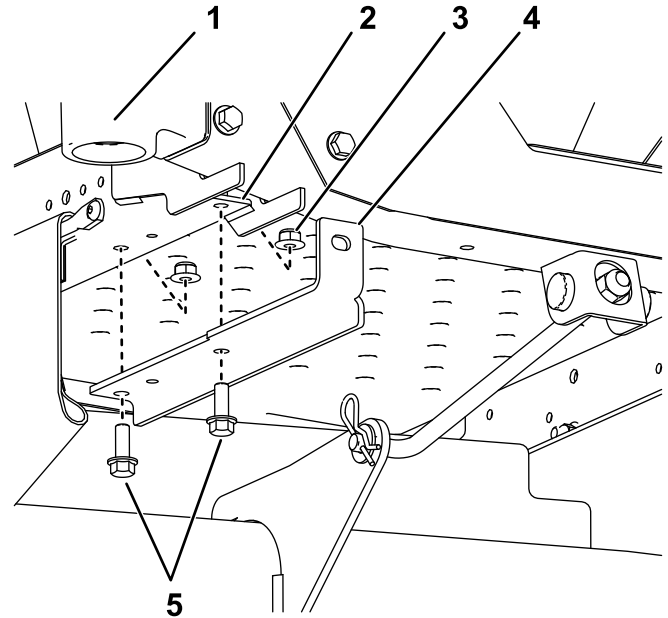

Figure 3
1. Install the weight-mounting brackets to the under side of the frame using 2 bolts (3/8 x 1 inch), and 2 locknuts (3/8 inch) as shown in Figure 3.